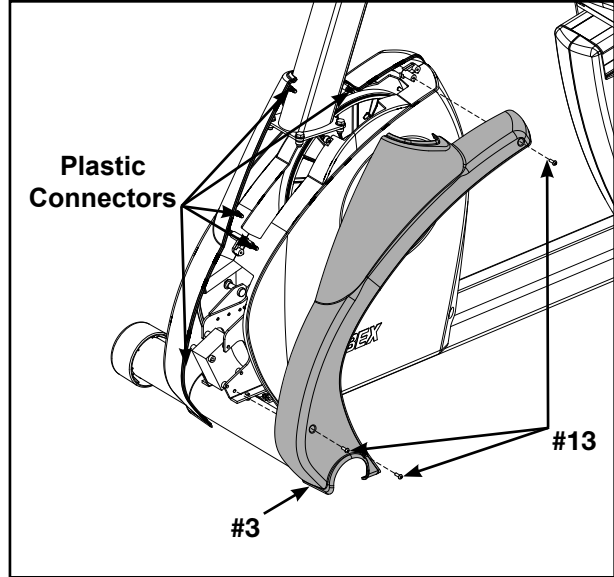

Figure 7
**NOTE:** In addition to two mounting screws per front cover, there are five plastic connectors that secure the front covers together. Ensure that all four plastic connectors are inserted properly in each front cover. See Figure 7.
**C.** Locate and place the front left cover (#3) on the front of the unit as shown in Figure 7.
**D.** Using a Phillips screwdriver, secure with three screws 8-16 x .50" (#13). See Figure 7.